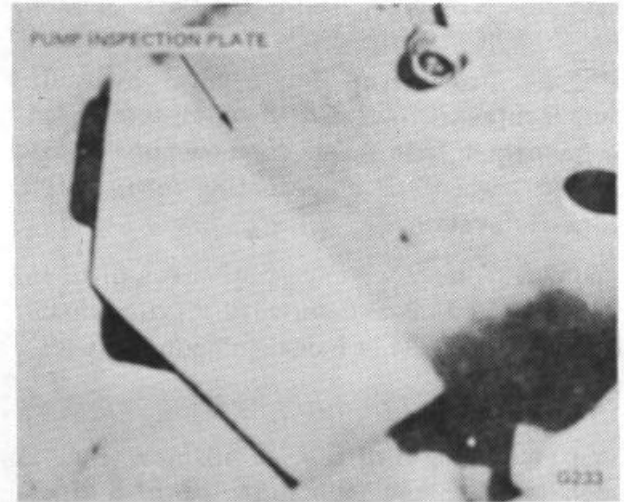

Figure 4.
1. Remove the inspection plate at the left rear wheel well. (Fig. 4)